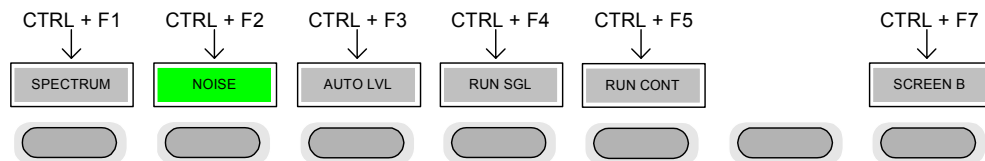

Fig. 5 Quick Access to Hotkeys
CTRL keys Used to activate hotkeys. Each of the seven hotkeys is allocated a different function (F) key. To access these hotkeys press CTRL and the corresponding F key together (see Fig. 5 ):